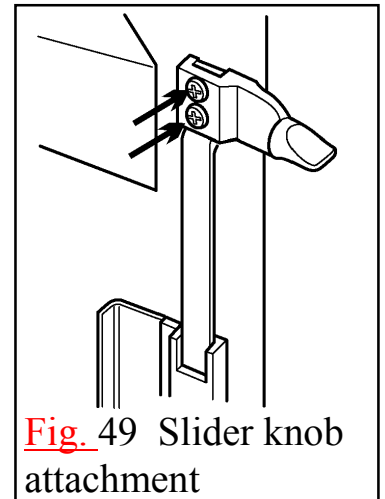

Fig. 49 Slider knob attachment
2. Detach the slider knob from the slider bar (Colourway & Homestyle models - detach from the extension bracket). See figure 49.